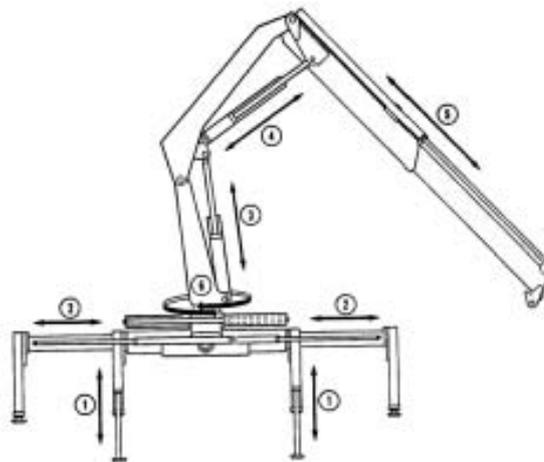

Figure 20 Bleeding Sequence
- 52.** To bleed air from the hydraulic system after repairs, proceed as follows (refer Figure 20):
- Operate the crane and run each hydraulic cylinder out to its end position at least twice. Refer to Figure 20 for the recommended sequence.